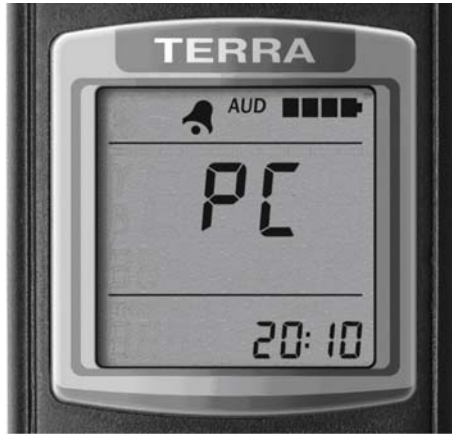

Figure 11 – LCD of the dosimeter
- For MKS-05 or RKS-01 devices set the mode of communications with the PC (“PC” symbol appears on the LCD (Figure 11)) by successive presses of the **MODE** button. Then press the **THRESHOLD** button. The LCD of the device displays the Bluetooth symbol, the “PC” symbols start blinking and the device starts searching for the corresponding computer with **CHECKPOINT** name of the Bluetooth device to establish connection. **Caution! Do not carry out any additional actions on the PC at that!**